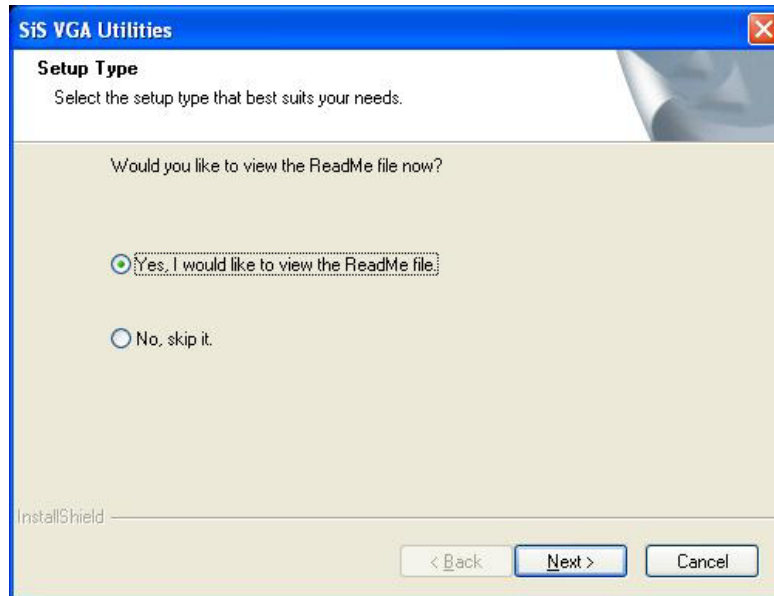

Figure 6-17: Read ReadMe File
Step 7: Once the installation is complete, read the Read Me file. **(Figure 6-17)**